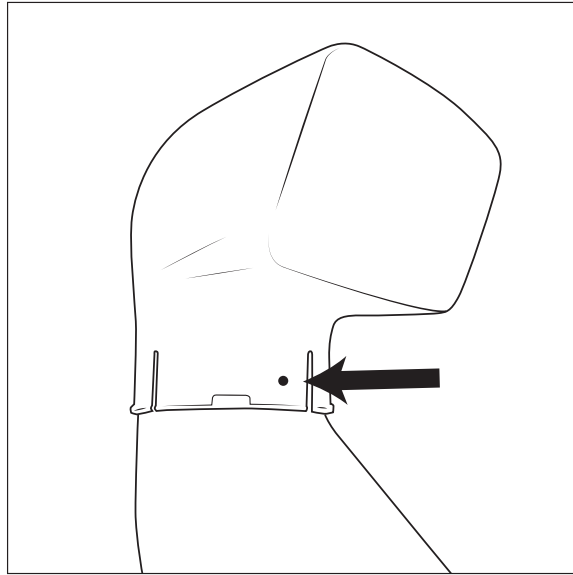

*Figure 18*
15. Tighten the hose clamp around intake tube and snorkel body connection (fig. 18).